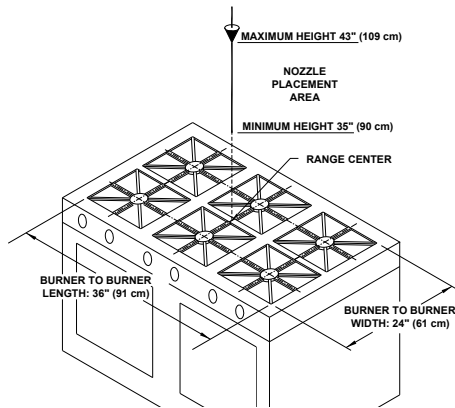

Figure 3-11.
The **Model N-2LP** nozzle is a two (2) flow point nozzle that can protect a range cooking area of 36" (91 cm) wide by 24" (61 cm) deep. The nozzle must be located 35" (89 cm) to 43" (109 cm) above the cooking surface and centered over the appliance. The nozzle must be aimed at the center of the cooking area. See **Figure 3-11**.
The **Model N-1LP** nozzle is a one (1) flow point nozzle that can protect a combination range / griddle with a cooking area of 30" (76 cm) wide by 24" (61 cm) deep. The nozzle must be located 30" (76 cm) to 40" (102 cm) above the cooking surface and within 3" (7.6 cm) of the center of the appliance. The nozzle must be aimed at the center of the cooking area. See **Figure 3-11**.